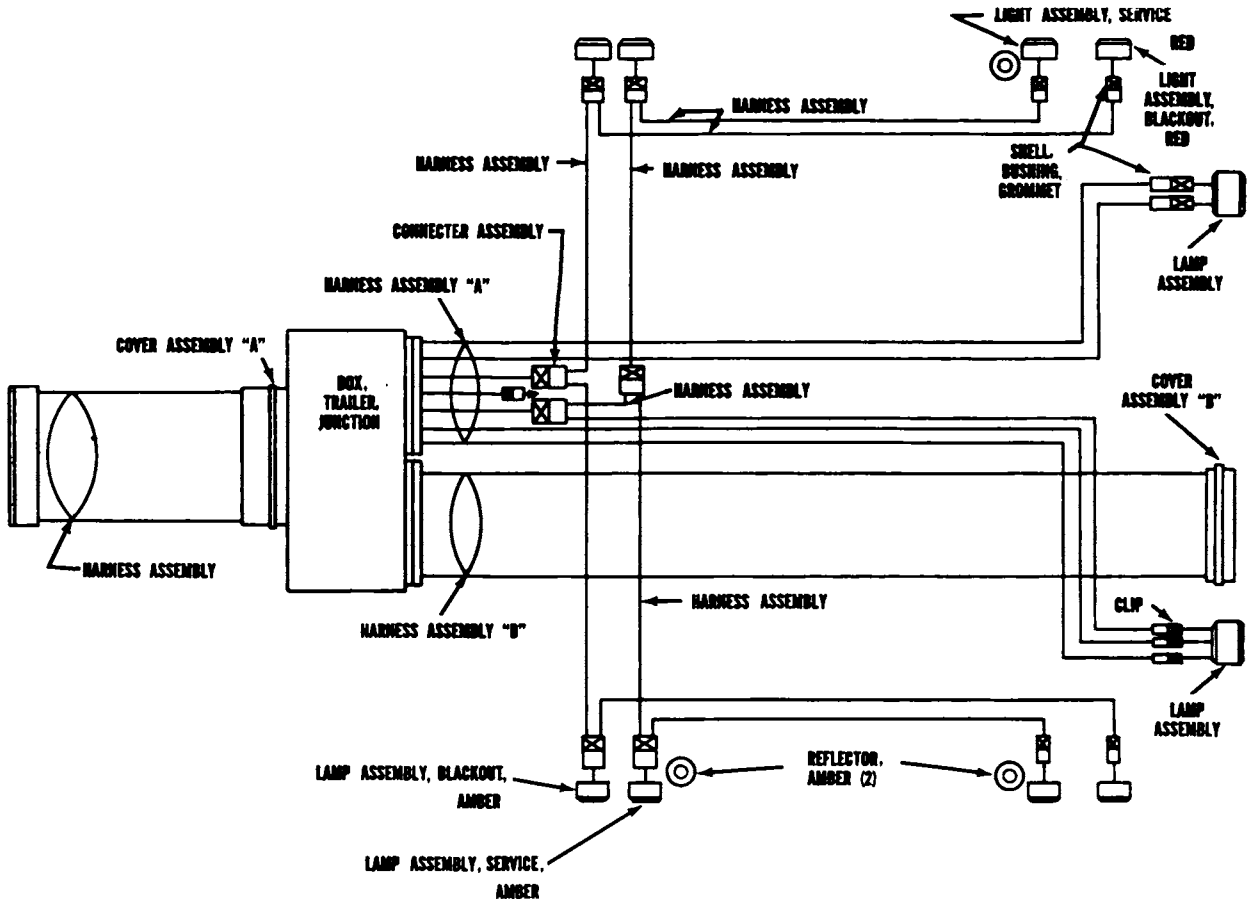

Figure 9. Exterior lighting wiring diagram.
h. Lighting. The trailer and dolly are equipped with a 24-volt electrical system controlled from the cab of the towing vehicle by means of light switches located on the dashboard. The petroleum laboratory trailer is equipped with a 12-contact coupling socket located beside the airbrake hose receptacles on the front of the trailer. The dolly is also provided with a socket which carries electricity for the taillight when the dolly is towed behind the trailer. The trailer and dolly are equipped with blackout taillight and blackout spotlight assemblies. In addition, the trailer is equipped with 2 sets of clearance lamps and running lights, 1 set for normal use and 1 set for blackout lighting. The lights operate off a 24-volt system. The wiring diagram for exterior lighting is shown in figure 9. The interior lights operate off a 110-volt, 60-cycle electrical system supplied by an electric generator or another outside source.